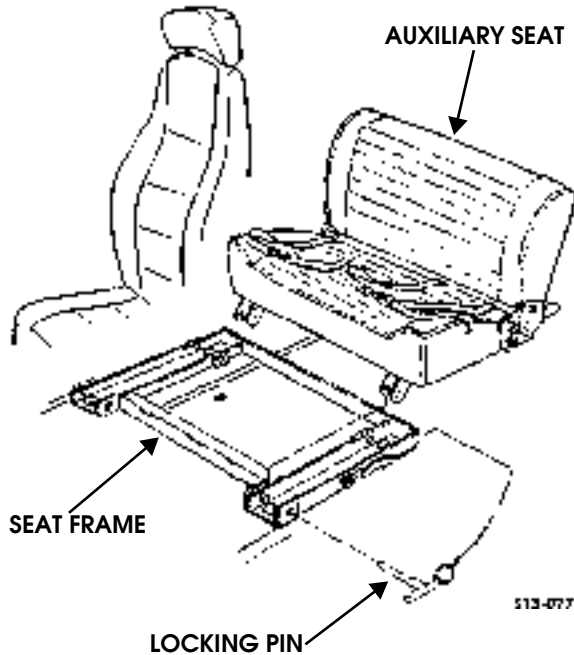

Figure 13-59: Auxiliary Seat
1. Release and remove four locking pins from auxiliary seat frame and auxiliary seat (Figure 13-59).